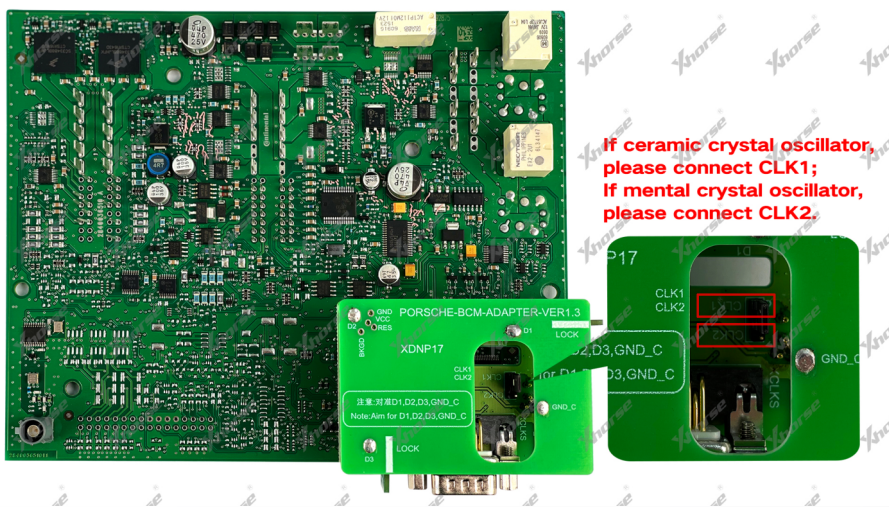

Figure 7.2.2
2. Connect the Multi-PROG device, module and adapter, pay attention to see whether the actual module is a ceramic crystal or a metal crystal, use the corresponding connection method according to the crystal type, as shown in Figure 7.2.2.